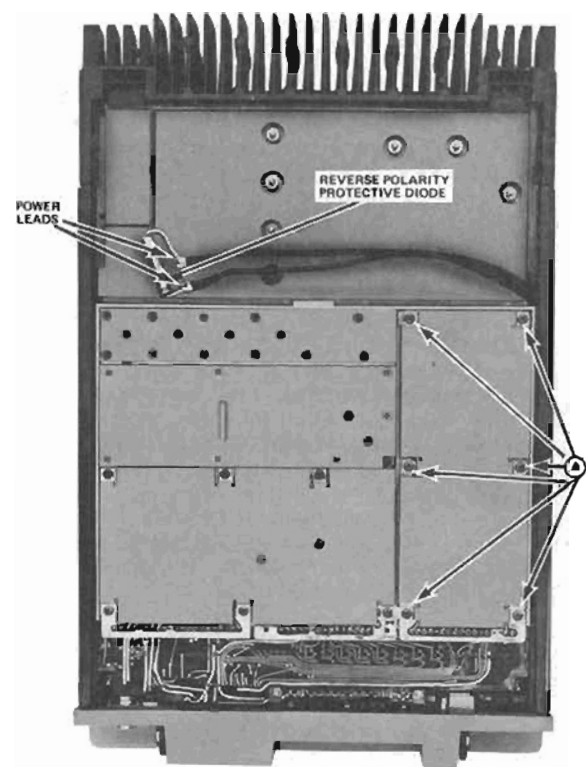

Figure 6 - Disassembly Procedure Bottom View
3. To gain access to the bottom of the exciter board, remove the six screws (A) holding the exciter board and its bottom cover to the module mounting frame, and remove the bottom cover (see Figure 6).